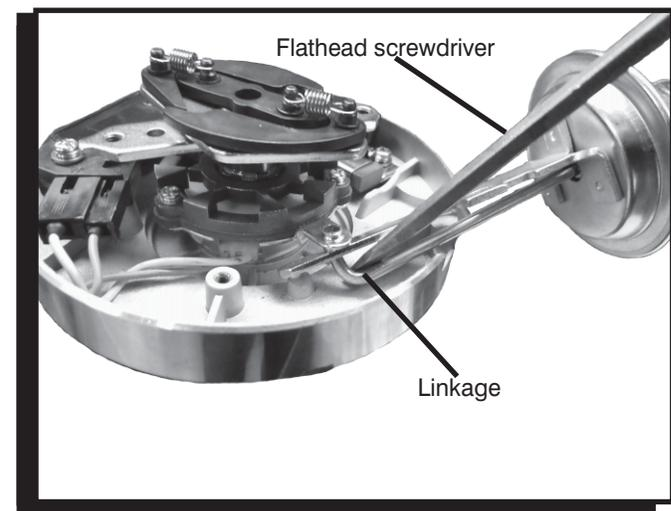

Figure 2.
3. Remove the vacuum advance canister and use a flathead screwdriver to release the vacuum linkage from the pickup. (Figure 2).